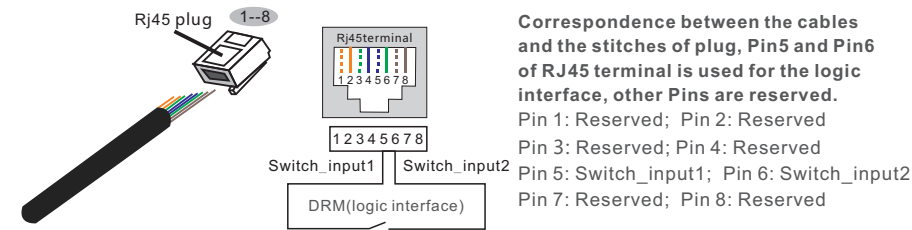

Figure 4.4 Strip the insulation layer and connect to RJ45 plug
2.Use the network wire stripper to strip the insulation layer of the communication cable. According to the standard line sequence of figure 4.4 connect the wire to the plug of RJ45, and then use a network cable crimping tool to make it tight.